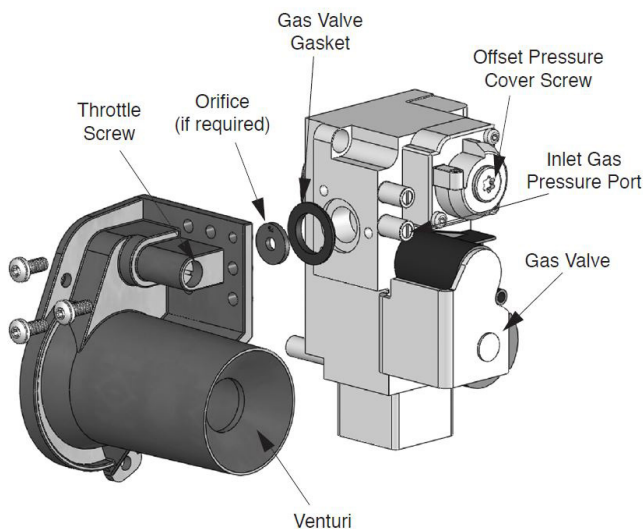
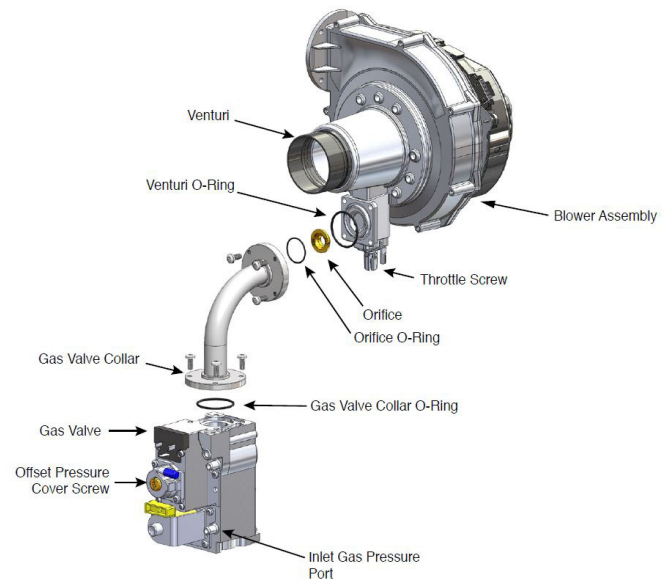

Fig. 3: Prestige 250
Fig. 4: Prestige 299-399
2. Install the orifice (if present) and orifice gasket between the gas valve and venturi as per Fig. 3 and Fig. 4. Tighten the screws securing the gas valve to the venturi.